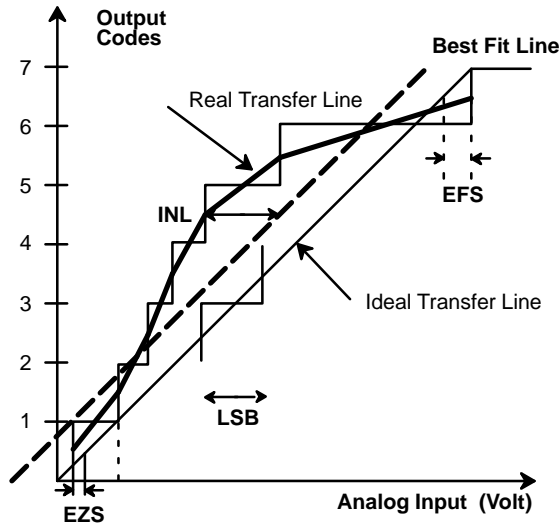

Figure 7. INL Error Calculation
- Tester measures code transition voltages by dithering the voltage of the analog input (V_{IN}). The difference between the measured code width and the ideal value (V_{REF}/1024) is the DNL error (see Figure 5.). The INL error is the maximum distance (in LSBs) from the best fit line to any transition voltage (See Figure 7.).
Figure 7. gives a visual definition of the INL error. The chart shows a 3 bit converter transfer curve with greatly exaggerated DNL errors to show the deviation of the real transfer curve from the ideal one.